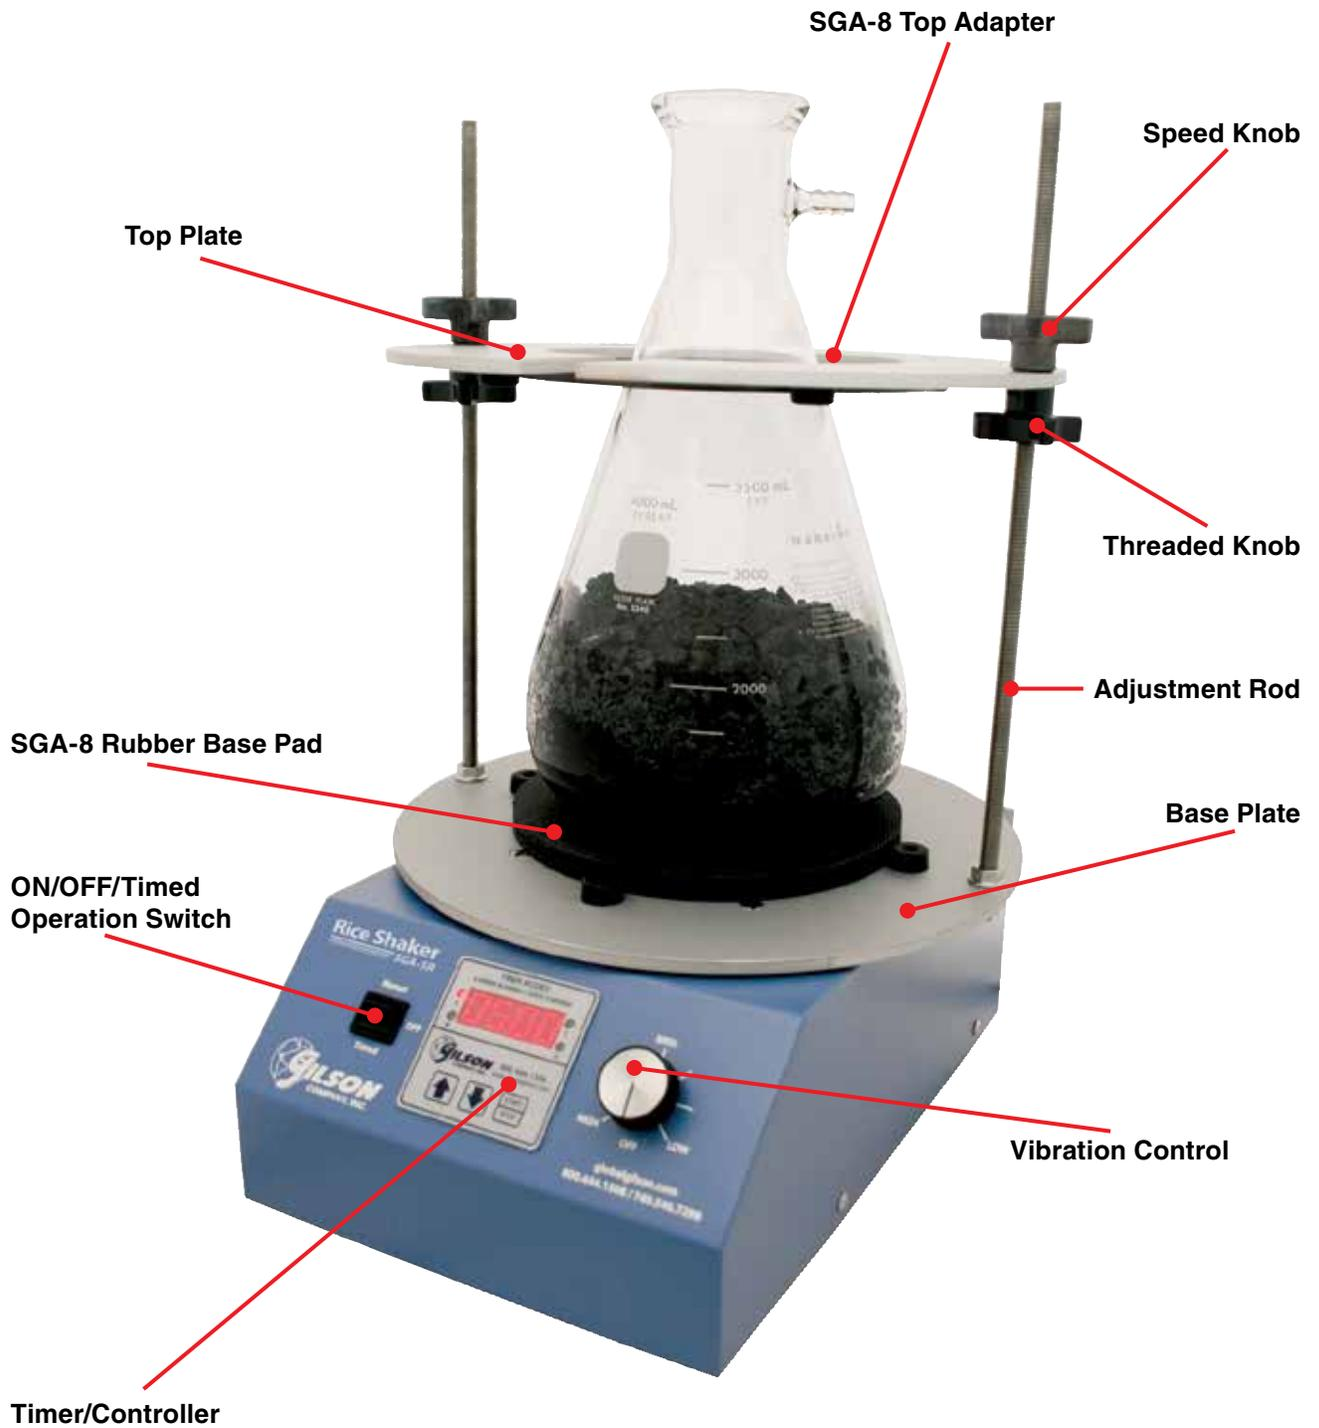

Figure 1
Place the rubber base pad between the four rubber bumpers on the agitator base, and then center the flask on the pad. Place the top adapter of the SGA-8 set over the neck of the flask, tilting as required to pass over the tubulation. Slide the top plate over the adjustment rods, and center the adapter between the bumpers (see Figure 1). Position the adapter/plate assembly approximately level and adjust the black plastic knobs until there is a small gap between the plate and the knobs. Drop the metal speed-knobs onto the rods and tighten so that the plate is pushed down slightly and contacts the bottom plastic knobs. Before turning on the Rice Shaker always check that both sets of knobs are secure.
5.1 Figure 1: Glass Filter-Flask